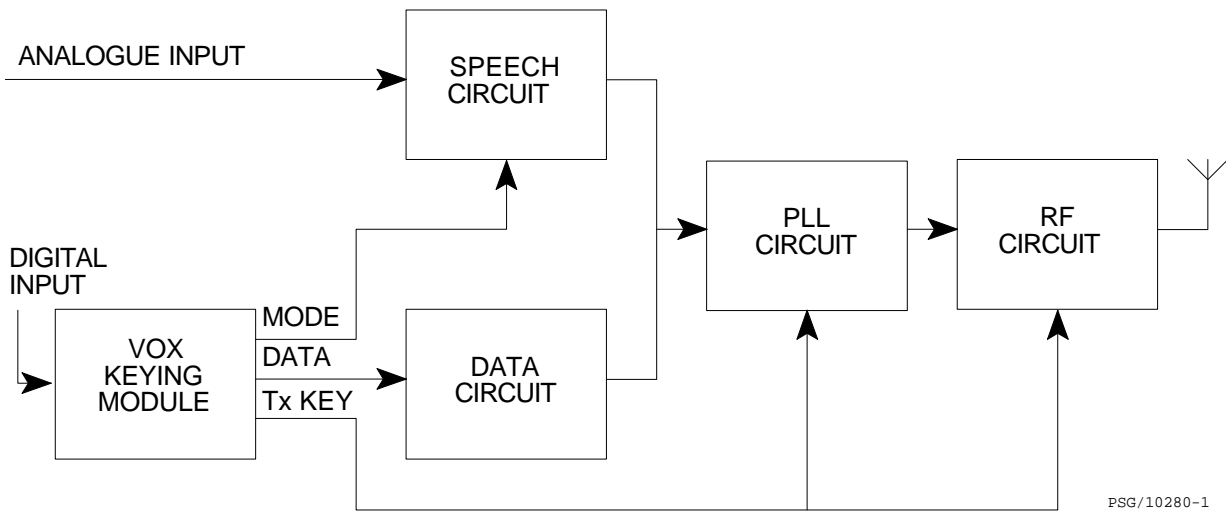

Figure 1: Block Diagram
1. The RPT 633 Transmitter accepts analogue or digital information which is modulated onto an UHF signal. The transmitter output frequency is produced by doubling the frequency of a voltage controlled oscillator (VCO). The VCO is locked to a reference crystal oscillator which is frequency modulated by either the Data or Audio input signals. A basic block diagram is shown at Figure 1.